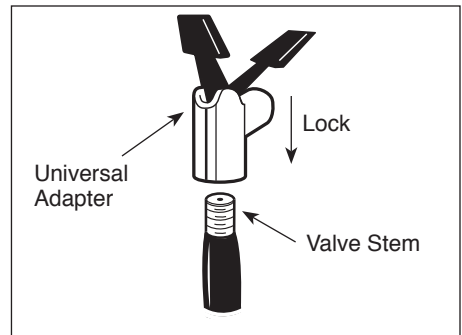

Figure 1
1. Remove valve stem cap. Attach the universal adapter from the air inflator to the valve stem with the lever in the up position. Be sure to press universal adapter down over valve stem threads completely. When universal adapter is firmly in place, press locking lever down to lock onto valve stem (See Fig 1).
2. To use the inflation accessories, insert piece into the universal adapter and push the lever to lock into place (See Figure 1). The inflation accessory will fit securely.